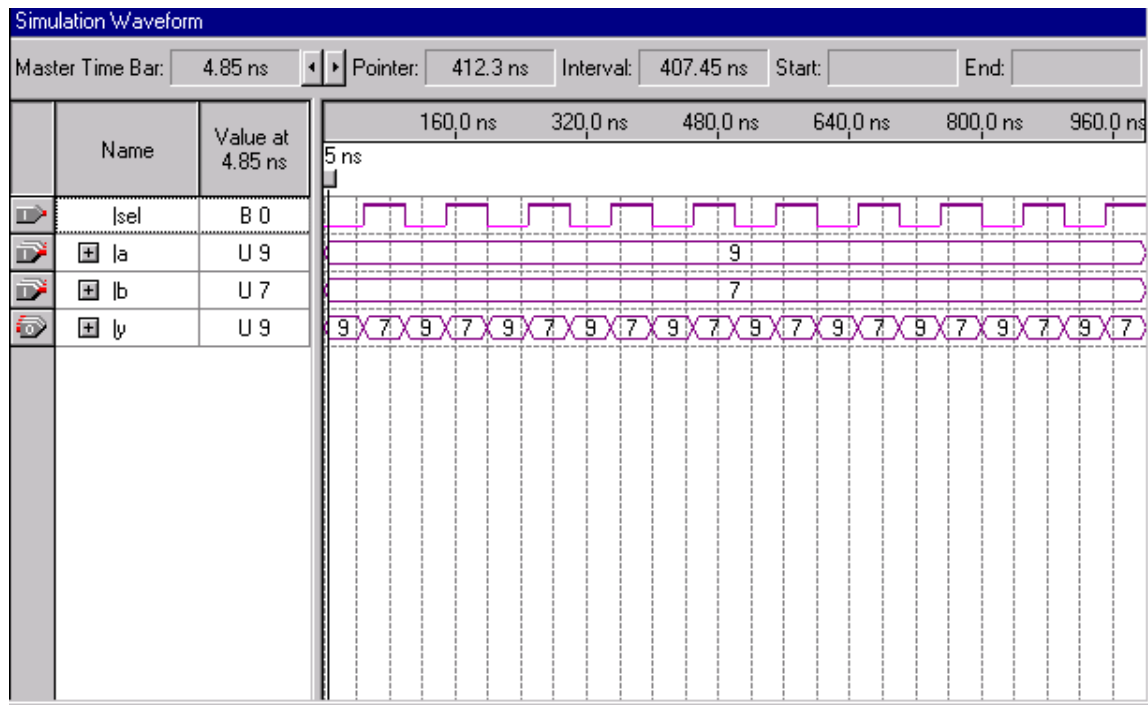

Figure 2-6.
6. Check to see if you get the same results shown in Figure 2.6.